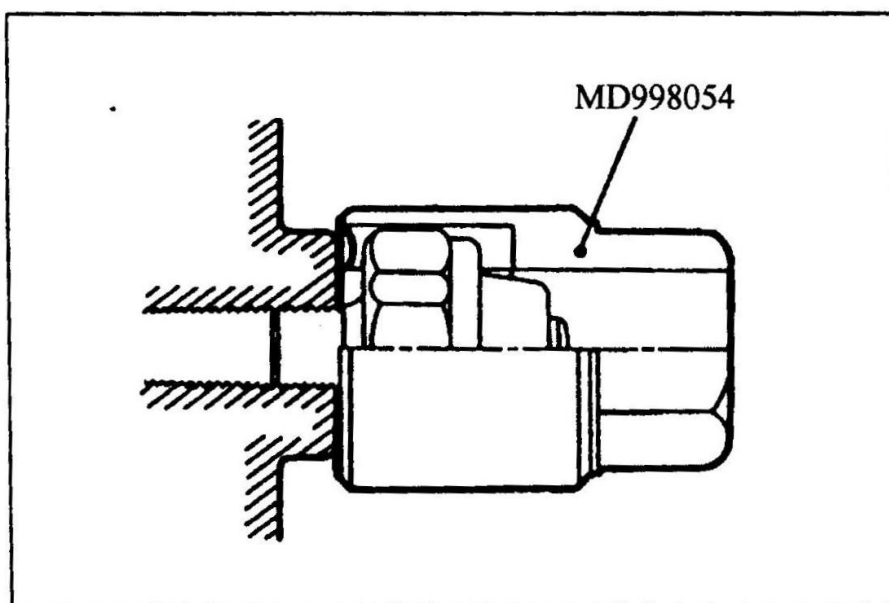

Fig 5-7
(8) Use the specified tool to tighten the oil pressure switch to the specified torque. (See Fig 5-7)。